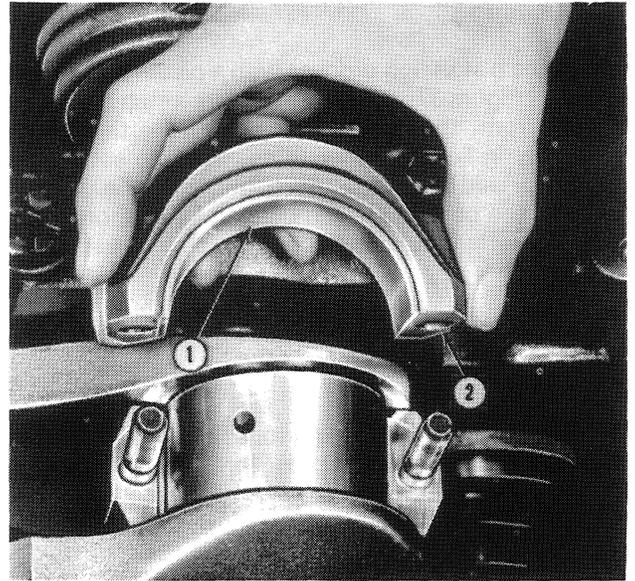

Figure 35
5. Remove the nuts from the connecting rod bearing cap bolts of the piston that is at the bottom of its stroke. Remove the rod bearing cap and liner, Figure 35, from the rod. Push the piston and rod assembly away from the crank pin and remove the bearing liner from the rod. Push the rod and piston assembly out of the top of the cylinder, using the handle end of a hammer. Be careful not to scratch the crank pin or the cylinder. Turn the crankshaft to bring each piston to the bottom of its stroke and repeat this procedure. Keep the bearing caps and liners with their respective connecting rods.